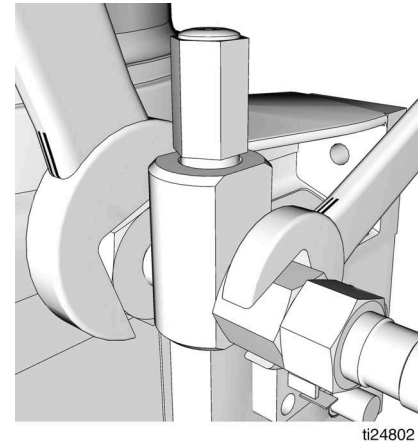

FIG. 25
4. Use two wrenches to tighten banjo fitting. Place one wrench on the pump element (e) and the second wrench over the end of the banjo bolt (d). **ONLY** tighten the banjo bolt (d) while holding the pump element (e) securely in place. Torque banjo bolt (d) to 35 ft. lbs (45.7 N•m) (FIG. 25). Take care to not over-tighten.